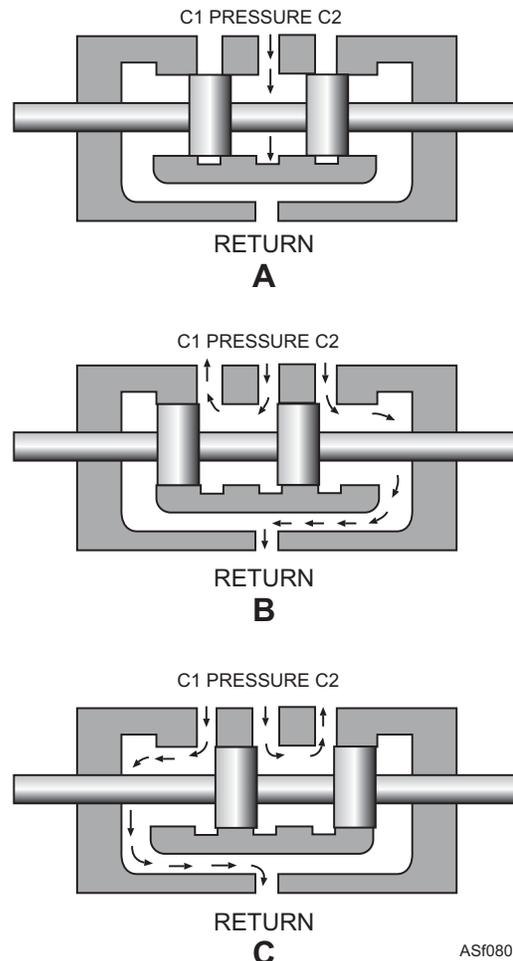

Figure 8-33.—Closed-center directional control valve. ASf08033
**CLOSED-CENTER DIRECTIONAL CONTROL VALVES.**—The closed-center directional control valve shown in figure 8-33 is a four-way control valve that is widely used in support equipment. It has four ports—a pressure port, a return port, and two working ports. The pressure port is connected to the main pressure line, and the return port is connected to the reservoir. The two working lines are connected to
Figure 8-33 shows the operation of the valve. View A shows the valve in the neutral position. In this position, there is no flow through the valve, as the two working ports (C1 and C2) are blocked off from the pressure and return ports.
In view C of figure 8-33, the spool is moved in the opposite direction, to the right of the neutral position, the working port (C2) is open to pressure, and the working port (C1) is open to return.
To electrically operate the four-way valves shown in figures 8-33 and 8-34, a solenoid is connected to each end of the valve. When the hollow coil of one solenoid is energized, the plunger of the solenoid moves and positions the sliding spool accordingly. By energizing the solenoid on the opposite end, the sliding spool moves in the opposite direction. Springs are usually provided to move, and hold, the sliding spool to the neutral position when neither solenoid is energized. The solenoids are electrically connected to switches that may be secured in a convenient location for the operator. Solenoids are also used to operate two- and three-way valves.